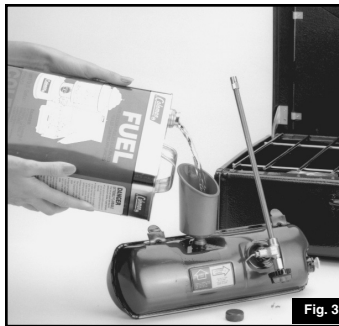

Fig. 3
- Remove FUEL CAP. Use a funnel or suitable filling device and fill with clean, fresh fuel. (Fig. 3)